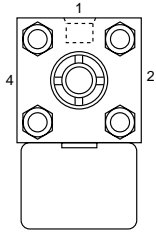

Fig. 5
On all other cylinder mounting styles (see Fig. 5), the actuator will be mounted at position (3) with the port at position (1) unless otherwise specified. If specified, the actuator can be mounted at position (2) or (4) on most mounting styles, with the port on one of the other sides. On the latter option, the port will be supplied at position (1) unless otherwise specified. Due to interference with the mounting flange, Style AB actuators are not available on the head end of style JB or the cap end of Style HB.